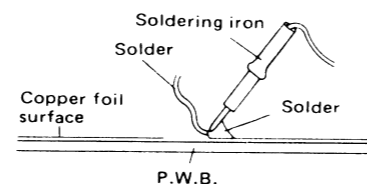

Figure 21-3
- Temporarily solder one terminal of the chip on the copper foil surface. See Fig. 21-3.